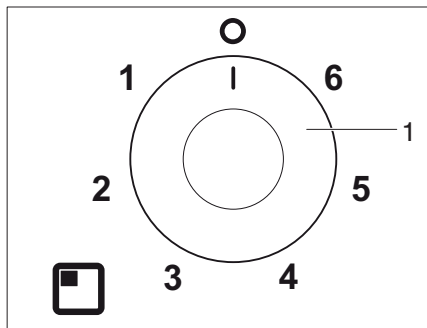

Fig. 170 Control knob for electric hotplate
- ▶ Rotate the control knob (Fig. 170,1) either clockwise or anti-clockwise to the required position (1 - 6).
- ▶ Turn the control knob (Fig. 170,1) to the 0 position to turn off the hotplate.